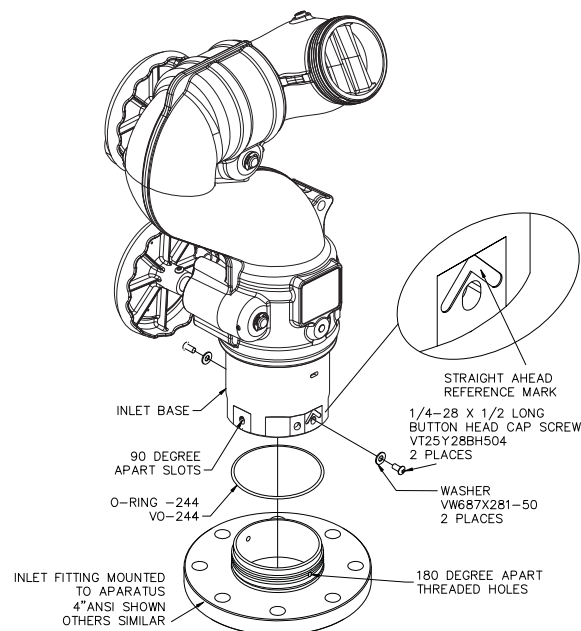

Fig 4.2.1B
The Typhoon Monitor is available with various inlet fittings as shown in fig 3.3. When the inlet fittings are used see figure 4.2.1A for the addition to overall height. The Typhoon Monitor also connects directly to TFT's Extend-A-Gun RC3 or RC4. The fittings and Extend-A-Gun RC are attached to the monitor by means of a threaded joint with an o-ring seal. Once in the proper orientation the threaded joint is locked from rotation by two 1/4-28 button head cap screws as shown in figure 4.2.1B. This makes for easy removal of the monitor since the large threads of the joint are not tightened and do not have any thread locking compounds on them. It is best to install the inlet fitting or Extend-A-Gun RC to the apparatus and then install the monitor to the inlet fitting or Extend-A-Gun RC. This gives more room to install the bolts in the case of flanged fittings. Referring to figures 4.2.1B and 4.2.1C the installation sequence is as follows:
- Mount so that 180 degree apart threaded cross holes will give desired direction relative to the "Straight Ahead Reference Mark" when the monitor is installed. See figure 4.2.1B.
The range of horizontal rotation travel for the manual Typhoon monitor is continuous 360 degrees. The motorized version is limited to 450 degrees total horizontal rotation travel or 225 degrees from either side of a straight ahead position. Horizontal rotation travel stop bolts may be installed in the monitor to limit travel as shown in figures 4.2.2A and 4.2.2B. Note that left and right are relative to the "Straight Ahead Reference Mark" (the Straight Ahead Reference Mark is shown in figures 4.2.1B and 4.2.2A) and refer to the nozzle's discharge direction as seen from an operator's position behind the nozzle. Figures 4.2.2A and 4.2.2B show the range of travel for the various stop bolt locations and give installation notes.